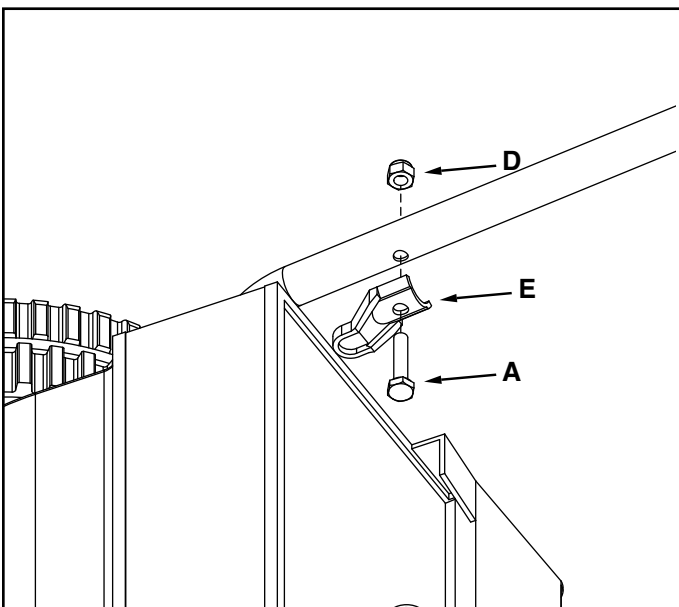

FIGURE 4
- Assemble a bag rod clip (E) to the inside of each lower handle tube using a 1/4" x 1-1/4" hex bolt (A) and a 1/4" nylock nut (D) as shown. The clips should face towards the sweeper housing. See figure 4.